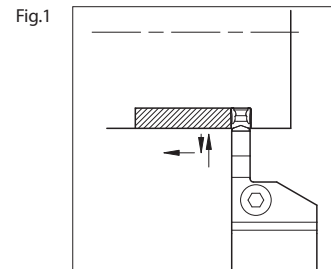

Fig.1
1. Grooving Depths Over 0.5mm : At Roughing (see Fig.1)